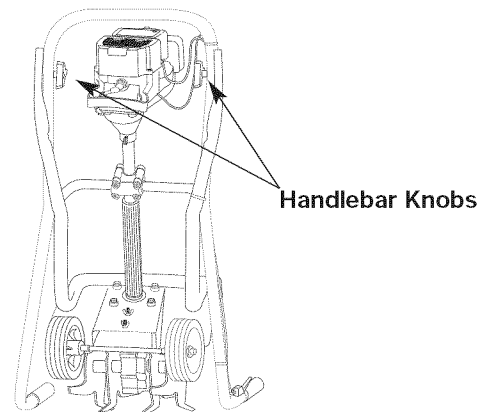

Fig. 20
3. Fold the handlebars down as shown (Fig. 20).